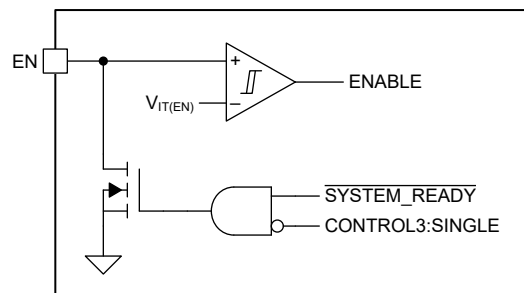

Figure 7-6. Enable Functional Block Diagram
The Enable (EN) pin is bidirectional and has two functions. See Figure 7-6: